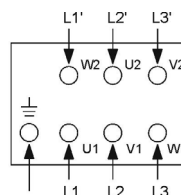

Fig. 3
- Make the connections, depending on case, according to Fig. 3.